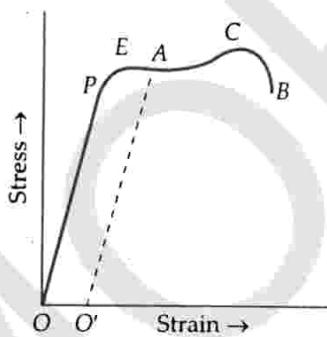

Fig. 9.25
**Problem 4. The stress-strain graph for a metal wire is shown in Fig. 9.25. Up to the point E, the wire returns to its original state O along the curve EPO when it is gradually unloaded. Point B corresponds to the fracture of the wire.**